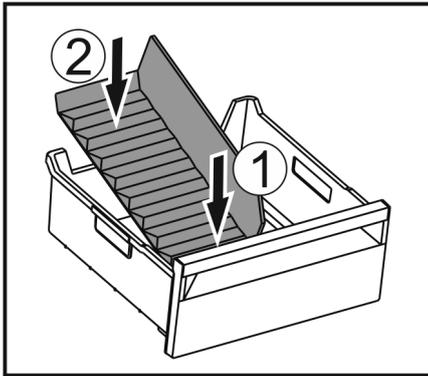

Fig. 147
- ▶ Insert the front part of the ice compartment divider. Fig. 147 (1)
- ▶ Lower the rear part of the ice compartment divider to the drawer bottom. Fig. 147 (2)